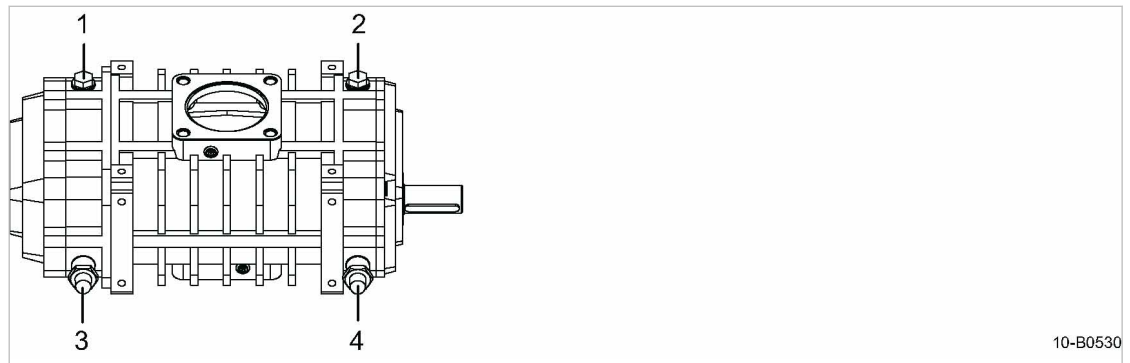

Fig. 29 Replenishing lubricating oil
2. Open the filler plugs at the oil inlet of the blower block ① and ② (Fig. 29).
3. Take off the caps ① and ② and open the oil drain taps ③ and ④.
3. Close the oil drain taps ③ and ④.
4. Check the oil level in both sight glasses (Fig. 29) and top off as necessary.
5. Screw on the caps ① and ②.